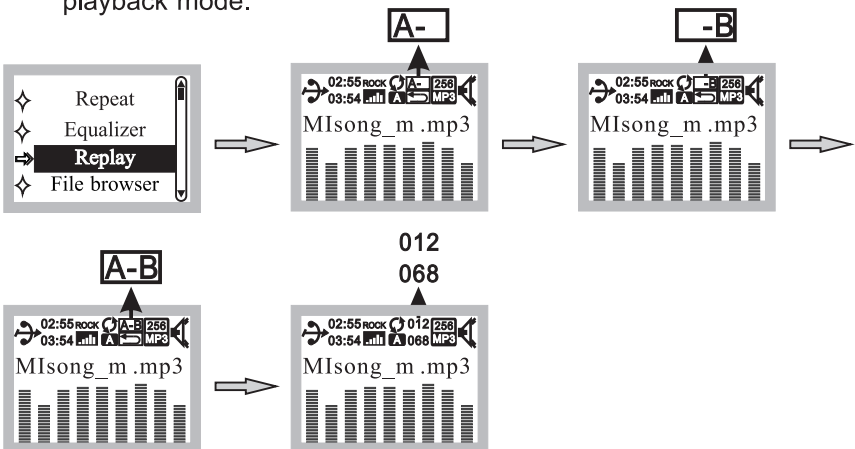

Fig. 13
(H) Replay Mode, Fig. 13:
- (1) Reply A- / -B mode.
- (2) In Replay Mode, press PLAY/PAUSE ⏸ to enter.
- (3) Press NEXT/TEN ▶▶ to select A- ; press NEXT/TEN ▶▶ again to select -B. Then it will replay A-B.
- (4) Press PLAY/PAUSE ⏸ to stop Replay Mode and return to playback mode.